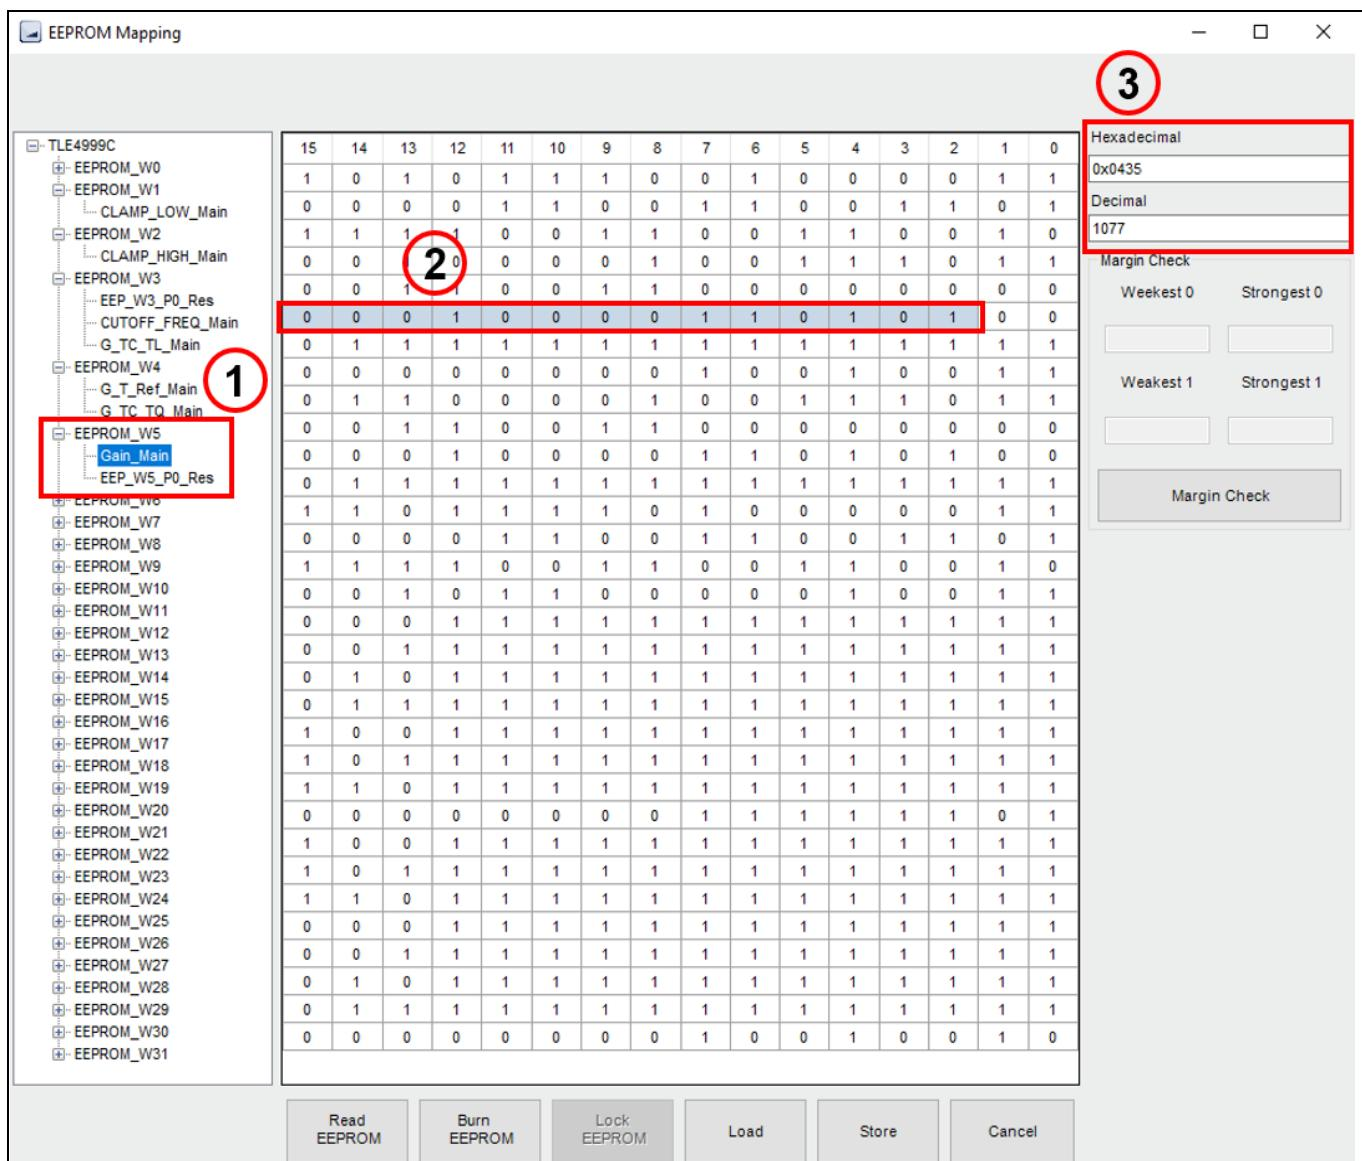

Figure 19 Sensor EEPROM map
The EEPROM Mapping window gives direct access to each EEPROM cell. In the left column all user EEPROM lines are listed. If a line is expanded, all included parameters are listed (see Figure 19). When a parameter is selected, the corresponding bits are highlighted in the map (1, 2). The values can be edited either using hexadecimal or decimal numbers (3). To make EEPROM changes effective the map from the software needs to be “burned” into the sensor’s EEPROM (see Table 2).